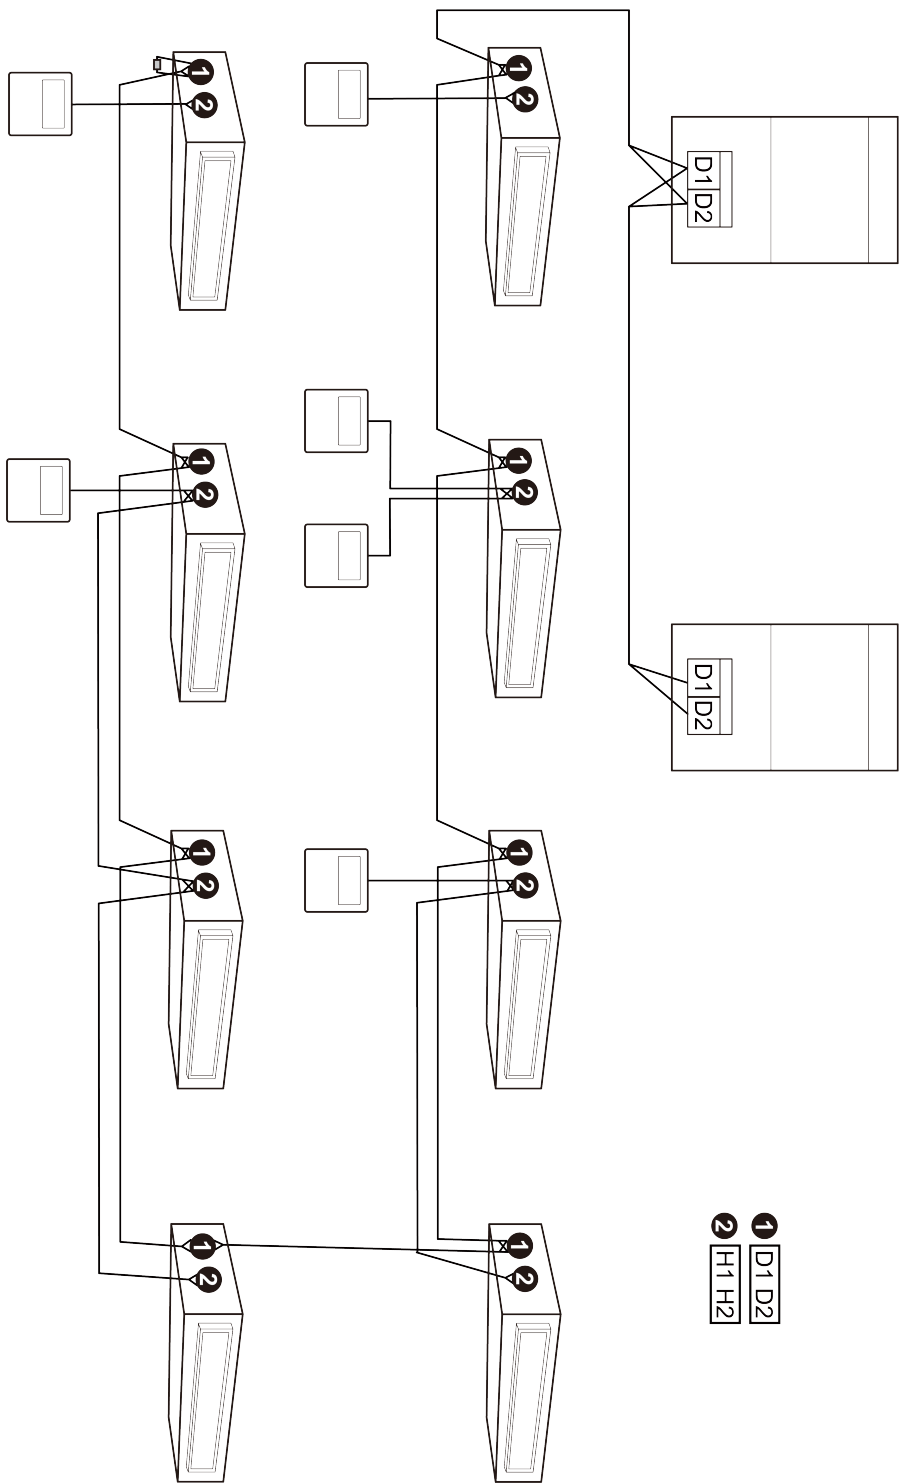

Fig.5.5.1
- (1) Communication wire of indoor unit and outdoor unit (or indoor unit) is connected to D1, D2.
- (2) Wired controller is connected to H1, H2.
- (3) One indoor unit can connect two wired controllers that must be set as master one and slave one.
- (4) One wired controller can control 16 indoor units in maximum at the same time. (as shown in Fig.5.5.1)